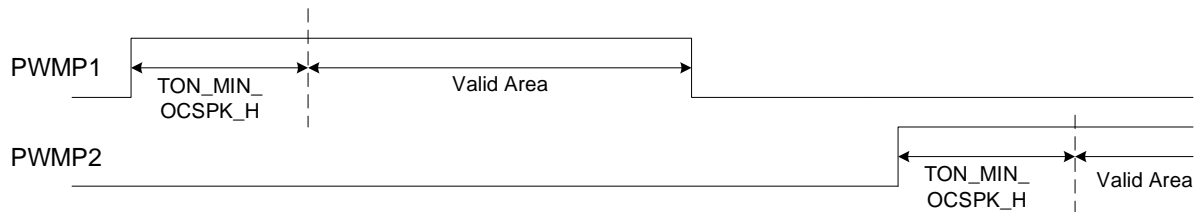

Figure 12: OCSPK_H
The CTRL_OC command configures the over-current (OC) spike function. The PWM t_{ON} is reduced when an OC spike occurs, and recovers after the OC spike condition is removed (see Figure 12). This protection cannot directly shut down the chip.